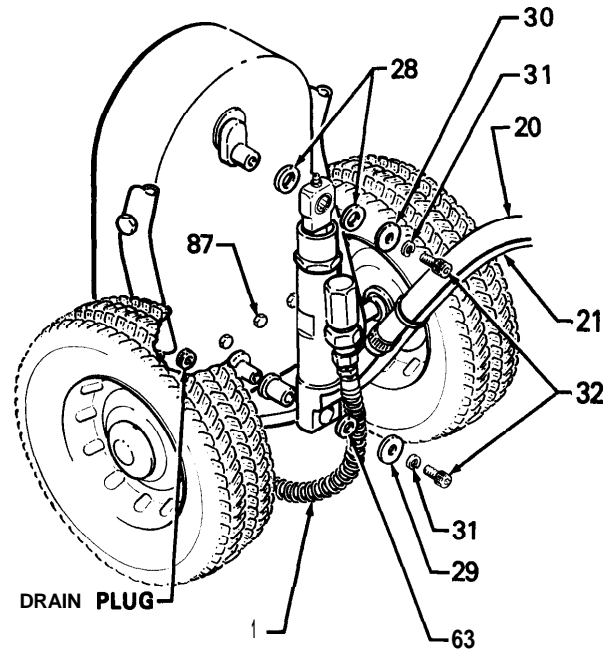

Fig 6
Disconnect the suction (20) and fluid line (1) hoses and open the pump shield (16). See Fig 6 and Parts Drawing. Remove the socket head screws (32), lockwashers (31), and flat washer (29) and spacer (63) from the pivot shaft, and the flat washer (30) and thrust washer (28) from the crank. Be very careful to hold the pump as you slide it off the shafts to avoid damaging the needle bearings. See Fig 6.
Secure the cover to the gearcase with the cap screws (80), then put the pressure control in place and secure with the three cap screws (78). Connect the conduit and wires to the motor. Tip the sprayer back to its normal position and install the cap screws (87) and tighten. Connect the displacement pump and all the hoses. Refer to Fig 6.